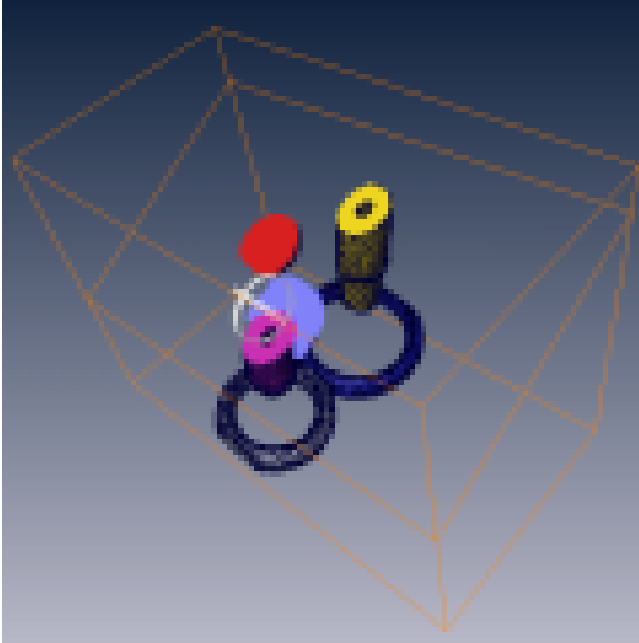

Figure 5.2: Numbering of points in a tetrahedron with positive volume (left). Numbering of the corresponding triangles (right).
- The `tetras` array describes the actual tetrahedra. For each tetrahedron the indices of the four points and the indices of the four triangles it consists of are stored. The numbering of the points and triangles is shown in Figure 5.2. In particular, the fourth point is located above of the triangle defined by the first three points. Triangle number i is located opposite to point number i .